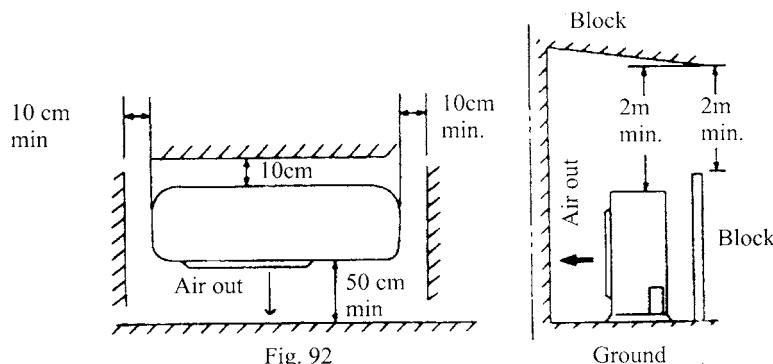

Fig. 92
- Where there leaves enough space around the unit for free air flow and maintenance (see Fig. 92):